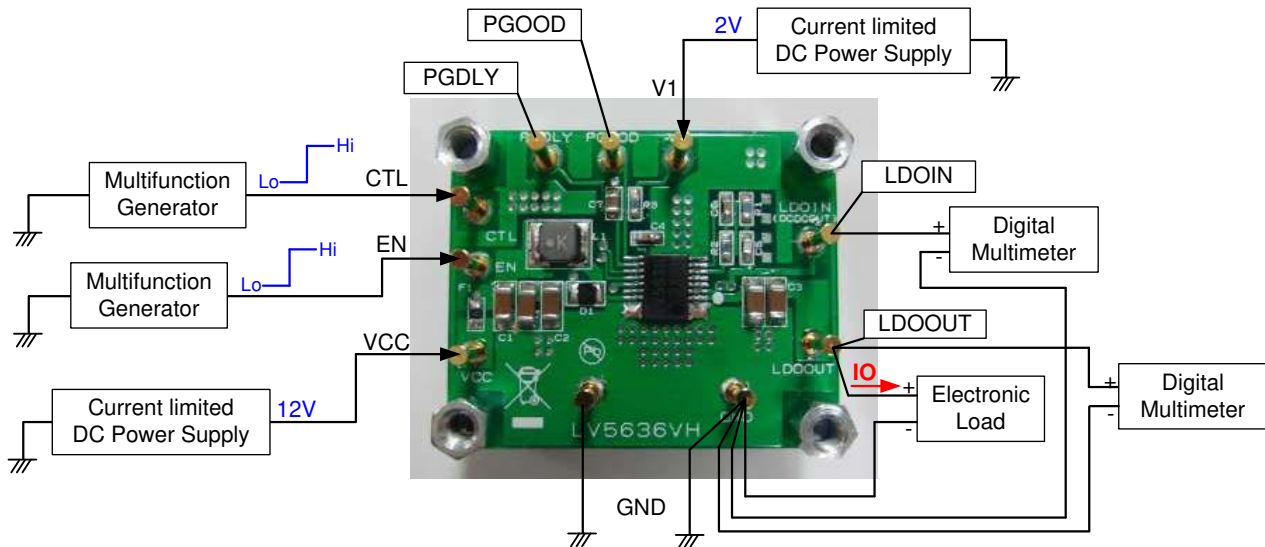

Figure 1: Test Setup
- (1) Connect the test setup as shown in Figure 1
- (2) Apply 12Vdc to VCC.
- (3) Apply 2Vdc to V1.
- (4) Apply Low level (0V) or High level (2V) signal to CTL.
- (5) Apply Low level (0V) signal to EN.
- (6) Check that LDOIN=12[V] and LDOOUT=0[V].
- (7) Apply IO(load)=0[A] to LDOOUT.
- (8) Apply High level (2V) signal to EN.
- (9) If CTL state = Low, Check that LDOIN=12.3[V] and LDOOUT=11.7[V]